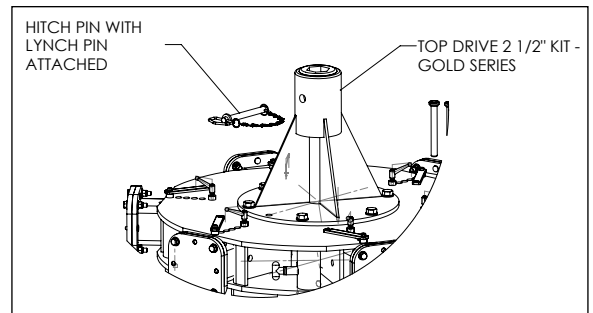

Figure 17. Hitch Pin With Lynch Pin Attached
18. Attach the Top Drive Assembly of the Six Shooter to the Auger Drive, securing it with the provided Hitch Pin with Lynch Pin Attached [P-MM0038]. See Figure 17.